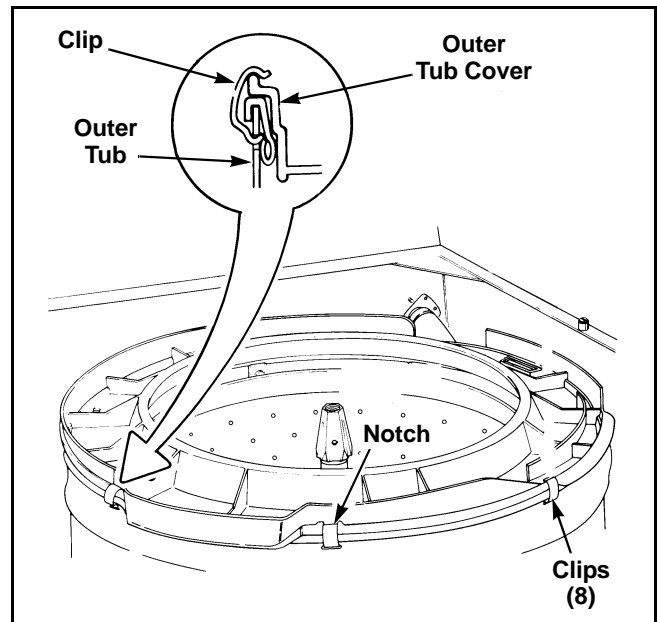

Figure 34
- d. Remove eight clips holding outer tub cover to tub. Refer to *Figure 34*. Lift cover off tub and set beside washer cabinet.
**NOTE:** When installing outer tub cover, always use a new cover gasket. Lubricate the gasket with a rubber lube or liquid soap to aid in assembly. Cover must be placed on outer tub so notch on top edge of outer tub cover is directly over left front clip hole in tub. Refer to *Figure 34*. Starting with this hole, place each spring clip in its respective hole and snap in place. Refer to *Figure 34* for proper clip installation.